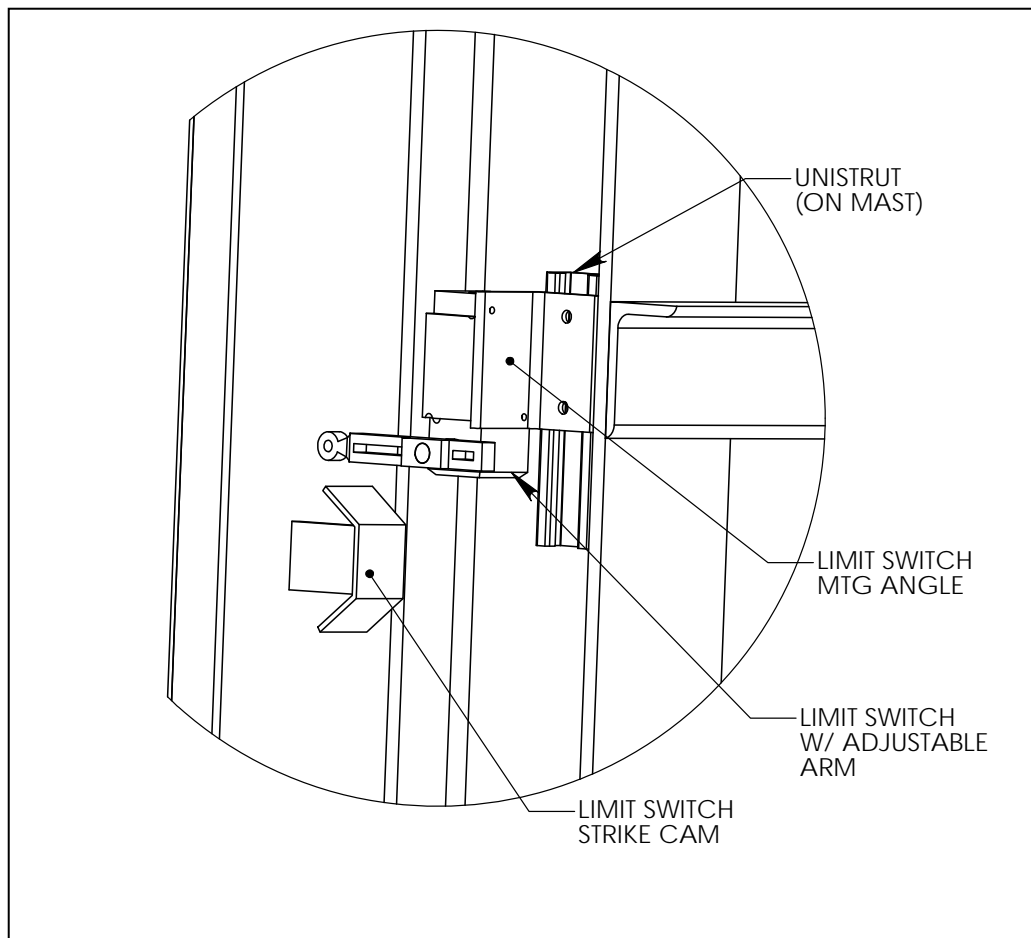

Figure 21 Level Limit Switch Mounting Detail
Level limit switch Kits (quantity depends on application – typically one (1) 2N.O.-2N.C. limit switch on second level, and (1) 1N.O.-1N.C. switch on first level (when equipped with solenoid interlocks), have been shipped loose to be field mounted, wired, and adjusted to sense the status/position of the lift carriage per **Figure 21**.
LIFT STATUS LIMIT SWITCHES: Limit switches have been shipped loose to be field mounted, wired, and adjusted to sense the status/position of the lift carriage (lower level – for interlocks, upper level – for hydraulic re-pressurization circuit, and/or mid-level for 3-level applications). Refer to **Figure 21**.